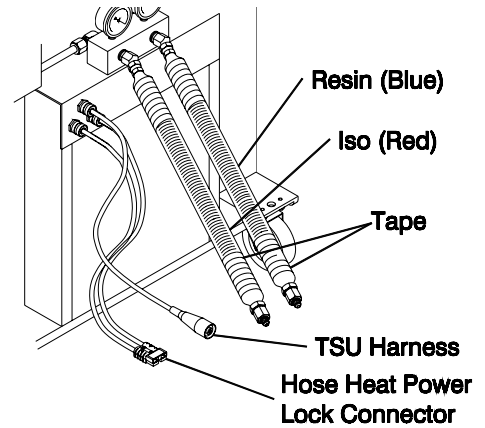

Figure 10. Isolation Hose Connections
1. Connect the isolation hoses to their respective primary heater outlet fittings (see Figure 10).